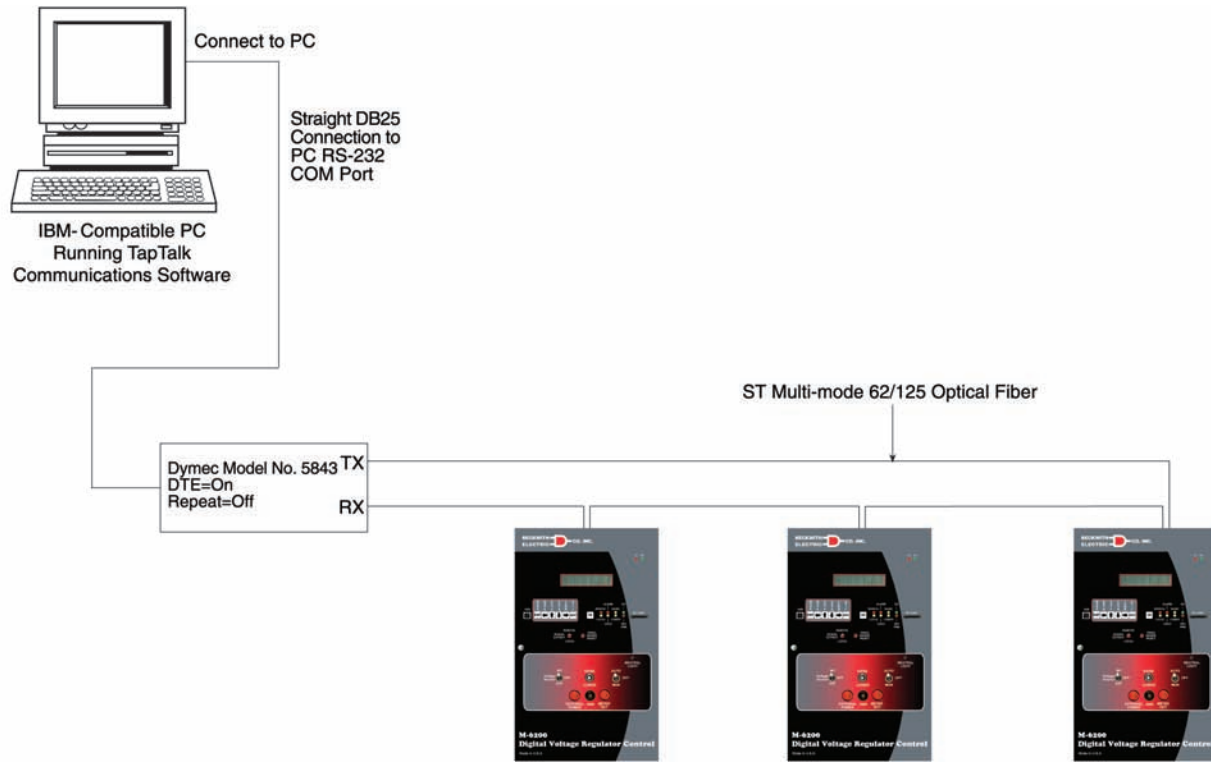

Figure 2 Fiber Optic Connection Loop
**Communications Using Networking:** The addressing capability of the M-6200 allows networking of multiple Beckwith Electric Digital Regulator Controls. Each regulator control can be assigned an address ranging from 1 to 65535. Selected commands may be broadcast to all controls on the network. Figures 2, 3 and 4 illustrate typical network configurations.